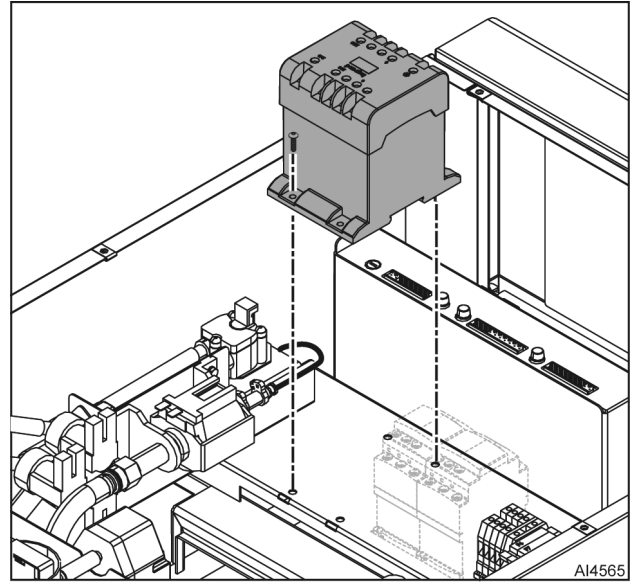

Fig. 12
3. Remove fasteners and primary transformer (Fig. 12).